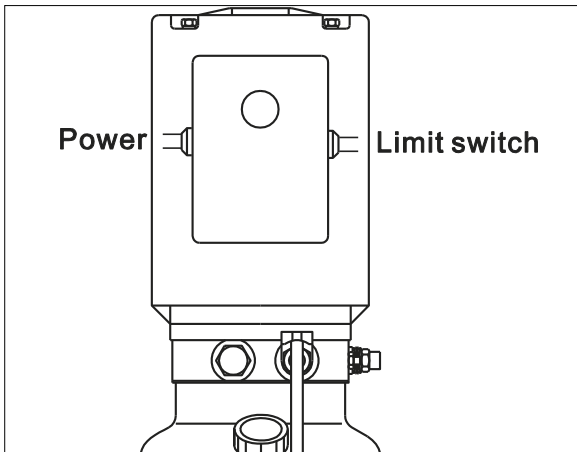

Fig. 35
4.4.3.2 Connect the power supply cable and end limit switch wire to the terminal strip on the junction box of the motor (**Fig. 35**) following the wiring diagram on **Page 4**.
4.4.3.4 Close the cover of the junction box. Press the up push button (**Fig. 35**), the motor rotation direction should be the one shown by the arrow on the pump.